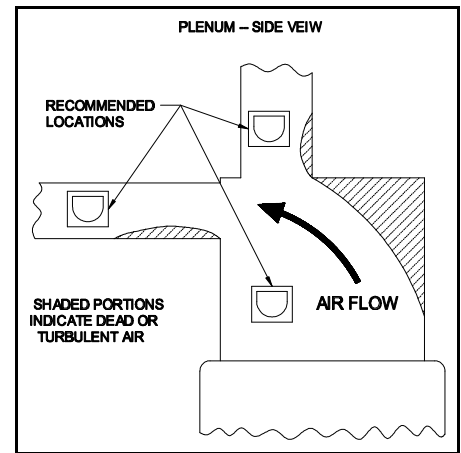

Figure 1
1. Select a location for your EvapoMist™ humidifier so that it will derive the most benefit from the normal air flow of the heating system. Care should be taken to install the unit in the area of highest air velocity and away from any turns in the heating system where turbulence can reduce evaporation. In installations where more than one humidifier is used, do not place them in a position where one obstructs the air flow to the other. (See Figure 1)